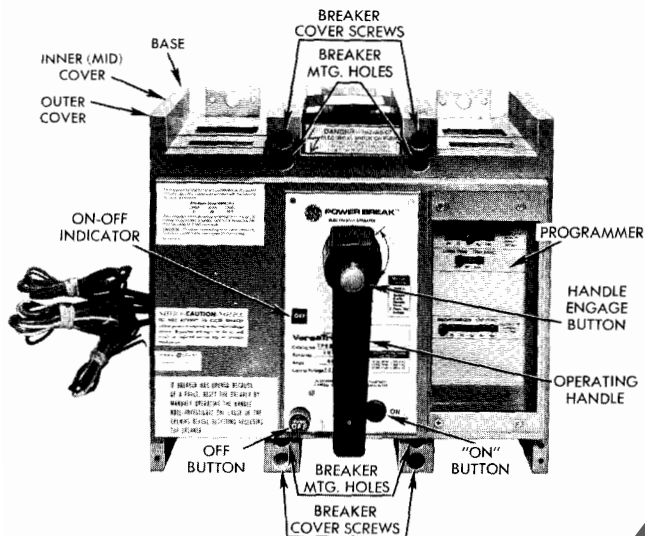

Fig. 2. 800A Frame Electrical Breaker
a. Outer Cover Removal.—See Fig. 2 or 3.
3. Remove four outer cover mounting screws (Fig. 2 & 3).
- d. 1600A-2000A Frames only—Replace two (2) inner cover mounting screws, See Fig. 2. Tighten to 50-60 inch-pounds torque.